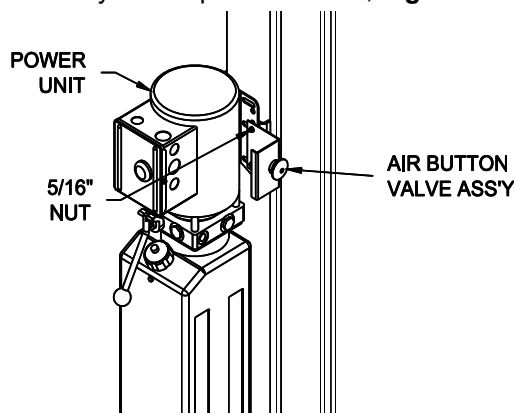

Fig 11 – Air Button & Power Unit Mounting
- 28) Install the power unit and the air button valve assembly on the power column, **Fig 11**.